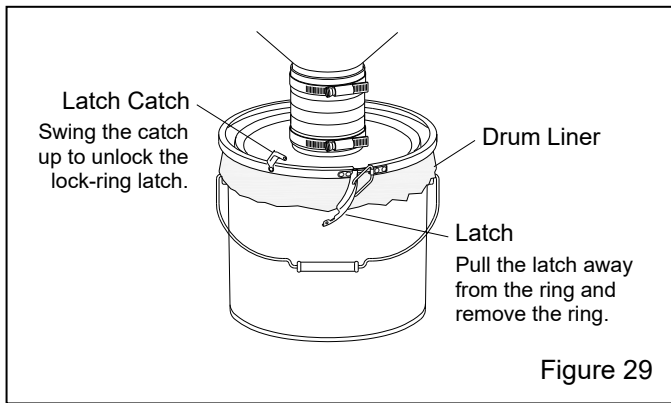

Figure 29
7.9 Replacing Filter Cartridge – Figures 29 and 30
7.9.2 Refer to Figure 29 and unlatch the dust container lid, pry off the lid from the container (the lid's flexible inlet hose allows easy removal), and remove the container.
7.9.11 Refer to Figure 29 and place a new liner inside the container and drape it over the top edge. Reattach the container to the lid and latch the lock ring, making sure the lid and clamp are secure. Replacement liners are shown in Sections 9.11.